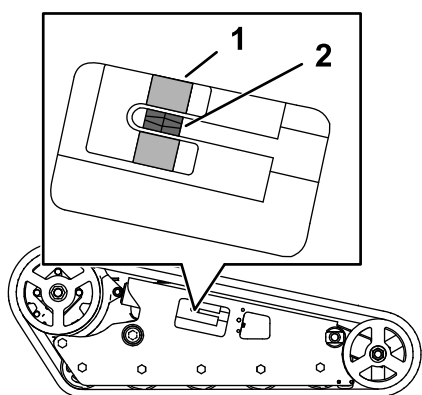

Figure 58
Verify that the tension block is aligned with the green guide on the decal or that the block is 1.3 cm (1/2 inch) away from the rear of the tension tube slot (Figure 58).
4. Using a 1/2 inch drive ratchet, turn the tensioning screw until the tension block aligns with the green guide on the decal or is 1.3 cm (1/2 inch) away from the rear of the tension tube slot (Figure 58).
8. Verify that the tension block aligns with the green guide of the decal or is 1.3 cm (1/2 inch) away from the rear of the tension tube for both tracks (Figure 58). Adjust if necessary.